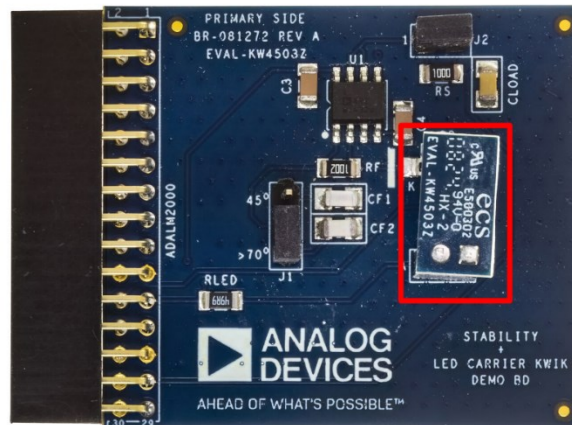
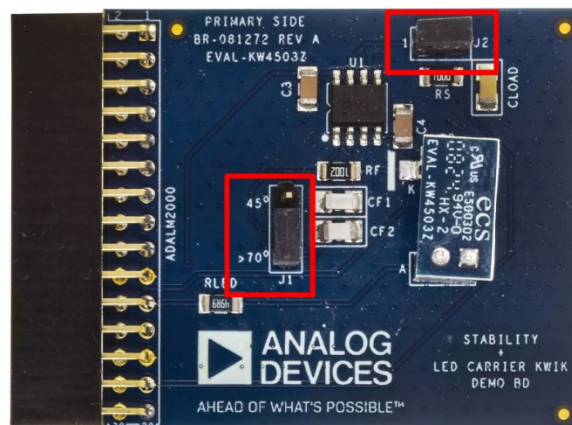

Figure 3. Placement of LED Carrier Board
Figure 4. Default Jumper Configurations
Inspect the demonstration board. The top view of the board should look like Figure 1 and the bottom view should look like Figure 2. The LED carrier board should also be placed on the LED socket by default as shown in Figure 3.
By default, the jumpers should be installed on J1 (>70° position) and J2 as shown in Figure 4.
- d. Install the LED carrier board on the Main board's **LED socket** as shown in Figure 3. Make sure that the LED from the LED carrier board is above the Main board's photodiode. The jumpers should be configured by default as stated in the Default Jumper Configuration section and Figure 4. Lastly, carefully align the pins of the Main board's ADALM2000 connector and insert it firmly in the ADALM2000 as shown in Figure 13.